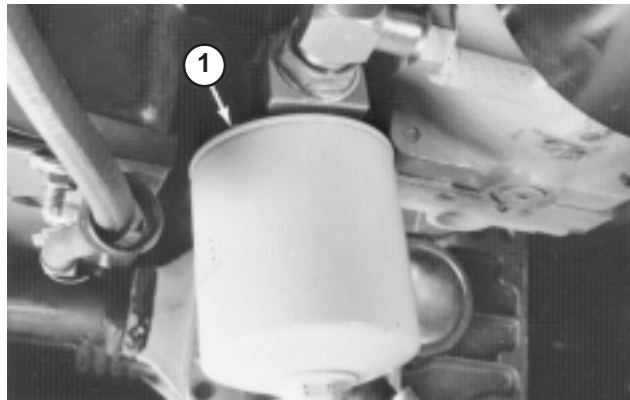

Figure 47
- Clean area where hydraulic fluid filter mounts. Remove filter from base (Fig. 47) and clean filter mounting surface.